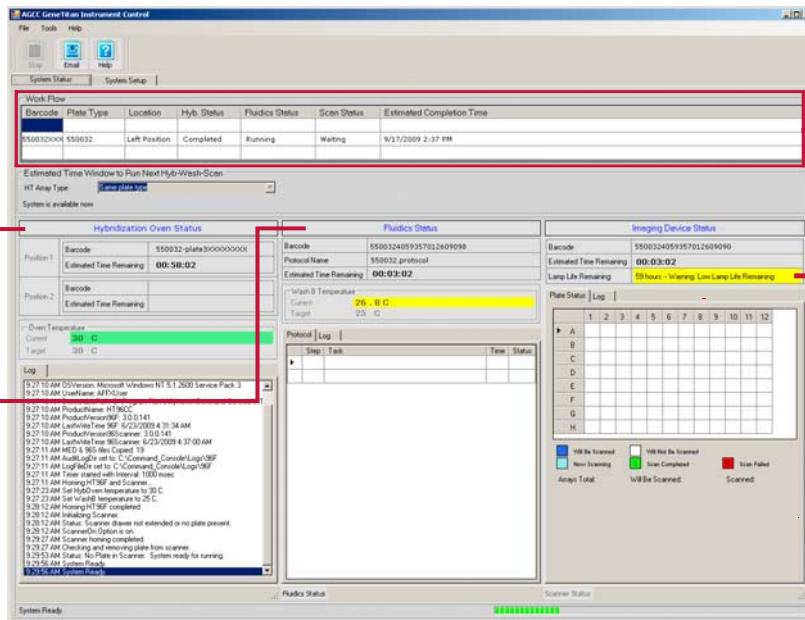

Figure 16 The AGCC GeneTitan™ Multi-Channel Instrument System control window
- The AGCC GeneTitan Control window opens (Figure 16).
1. Select **Unload Plates** from the Setup Option drop-down list (Figure 16).
- a. The appropriate drawer opens (Figure 16).